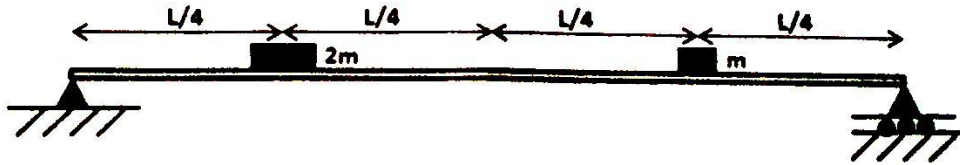

Figure.15 (a)(ii)
- (b) (i) Derive the equation of for the transverse vibration of a stretched string. (8)
- (ii) An uniform simply supported beam with mass density  $m$  per unit length supports two masses of magnitude  $2m$  and  $m$  as shown in figure.15(a) (ii). Using Rayleigh's method, find the fundamental frequency of the system.